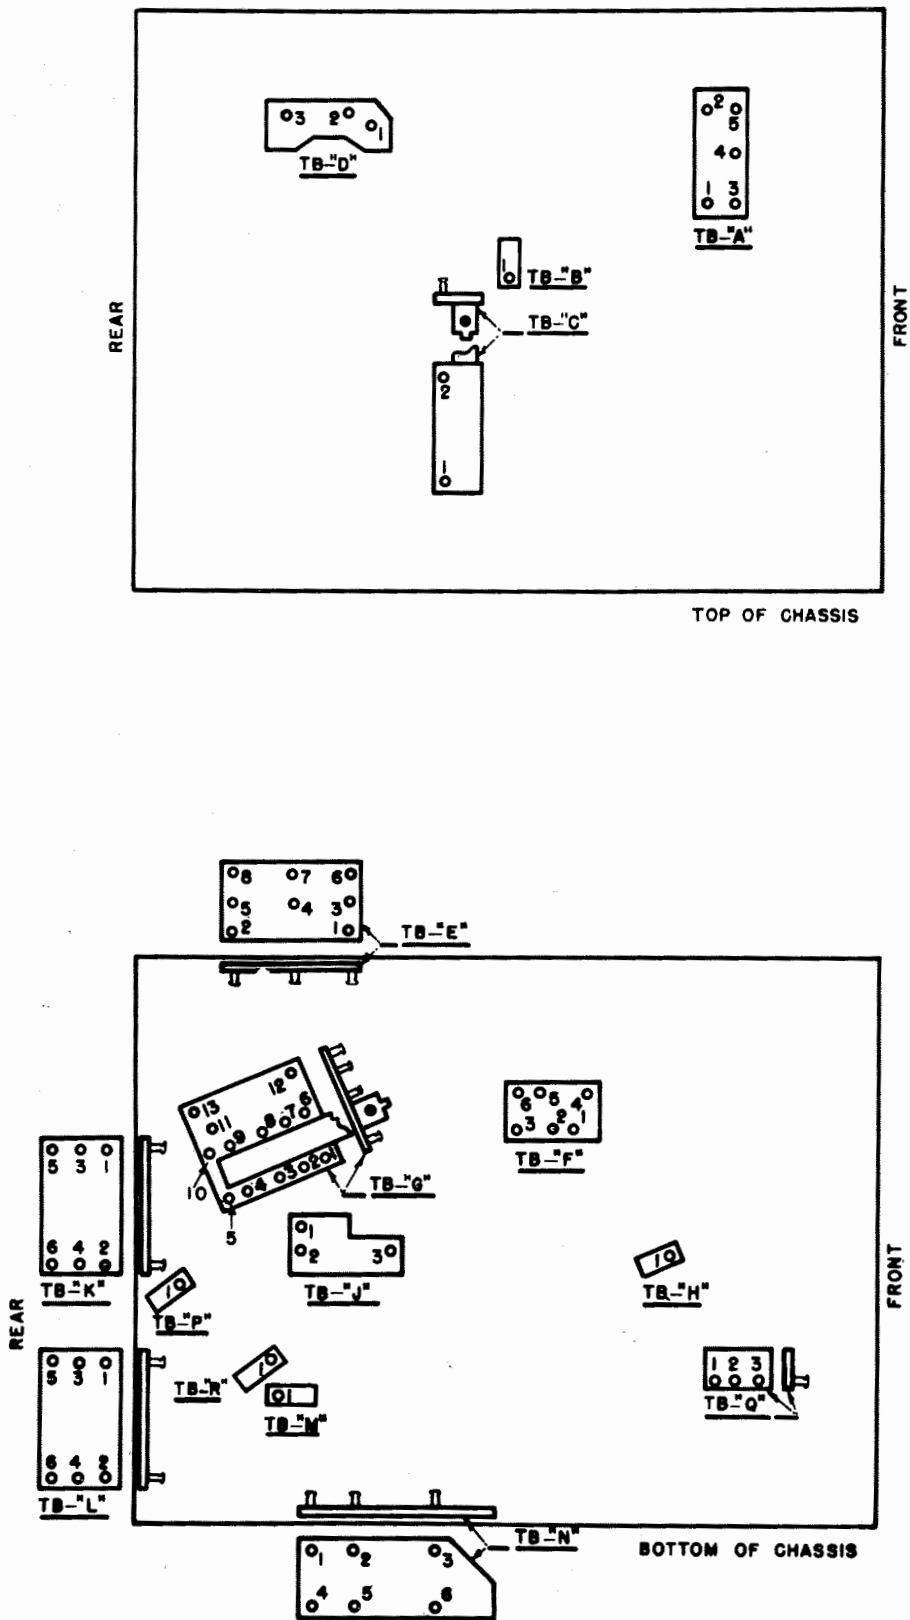

Figure 5-3. Radio Transmitter—Terminal Board Diagram
c. RESISTANCE MEASUREMENTS.—Take the following measurements with no interconnection between units, tubes and dynamotors in sockets, and "OFF" button on control box or "ON-OFF" switch on a control panel in the "OFF" position. Looking at the armature end of the relay, with the contact springs below the coil, relay terminal one is located nearest the coil in the left hand side. The other terminals are numbered consecutively down each row from left to right. Terminal boards are numbered as shown in figures 5-3 and 5-4. When resistances are found to vary appreciably (more than ±15%) from the typical values given in the fol-